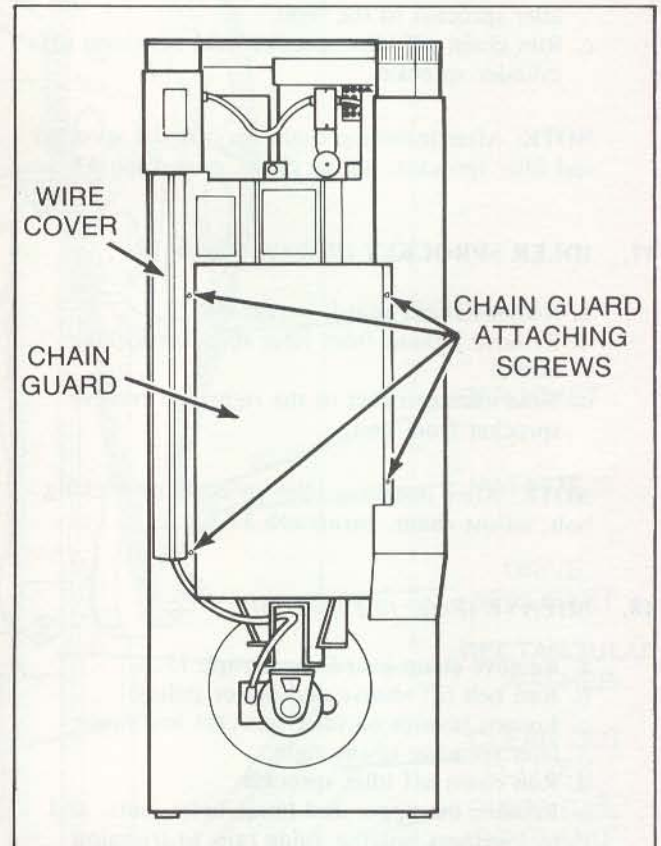

Figure 16
**13. CHAIN GUARD** (*Refer to Figure 16*)
**14. WIRE COVER** (*Refer to Figure 16*)
- a. Support chain guard and remove Phillips head screws holding guard to rear of tumbler, *Figure 16*.